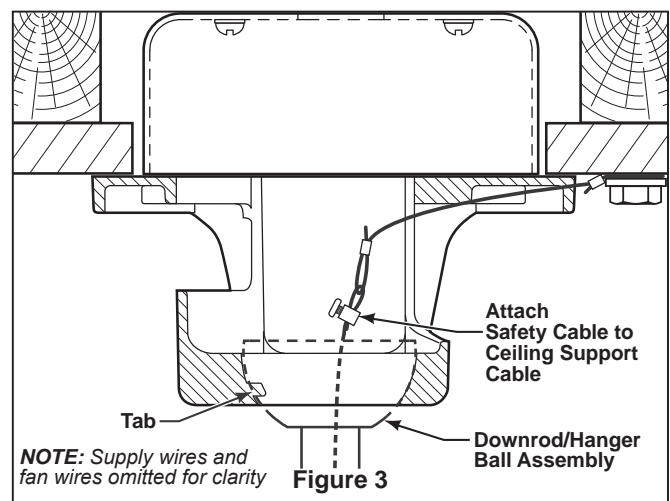

Figure 3
3. Loosen the two set screws in the downrod support. Route blue, brown and orange lead wires and safety cable through the downrod (Figure 3).
4. Carefully lift the fan and seat the downrod/hanger ball assembly on the hanger bracket that was just attached to the ceiling joist. Be sure the groove in the ball is lined up with tab on the hanger bracket. (Figure 3)
5. Attach the safety cable to ceiling support cable. Slide cable clamp onto safety cable (from fan). Place the end of cable through the loop of ceiling support cable. Pull as much cable through loop as possible. Feed end of cable into clamp hole and firmly tighten screw (Figure 3). Cut off excess safety cable.
5. Attach assembled blades and blade holders to the motor hub using the provided screws & lock washers. (Figure 3)